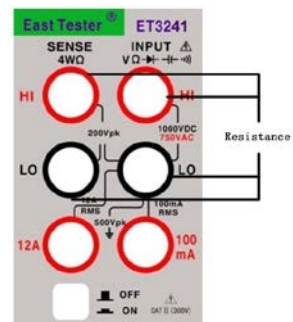

Figure 4-14 Wiring method
2. Connect the red and black test leads to the corresponding input terminals as shown in Figure 4-14.